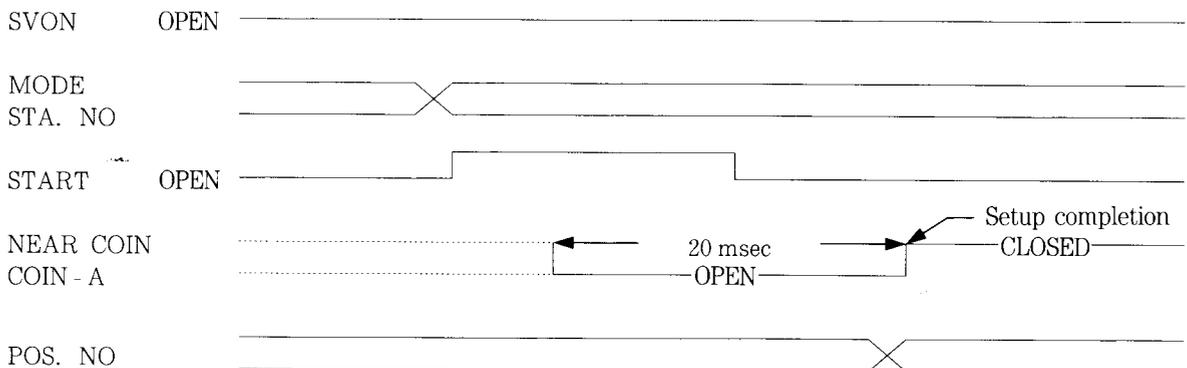

Fig. 4.3 Time Chart of Setup Operation
- **Time chart**     Fig. 4.3 shows the setup time chart.